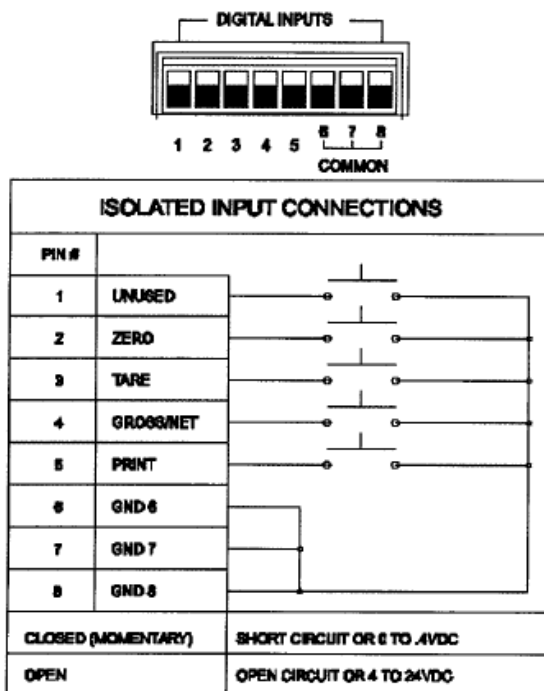

Figure 2-11. Remote Input Switch Configuration.
Certain front panel key functions can be initiated remotely using the rear panel digital inputs. Figure 2-11 gives wiring designations for remote operation of the ZERO, TARE, Gross/Net (GN), and PRINT keys. Interconnecting wire/cable length should not exceed 50 feet. Route wires/cable away from ac power lines and other EMI sources to prevent interference.